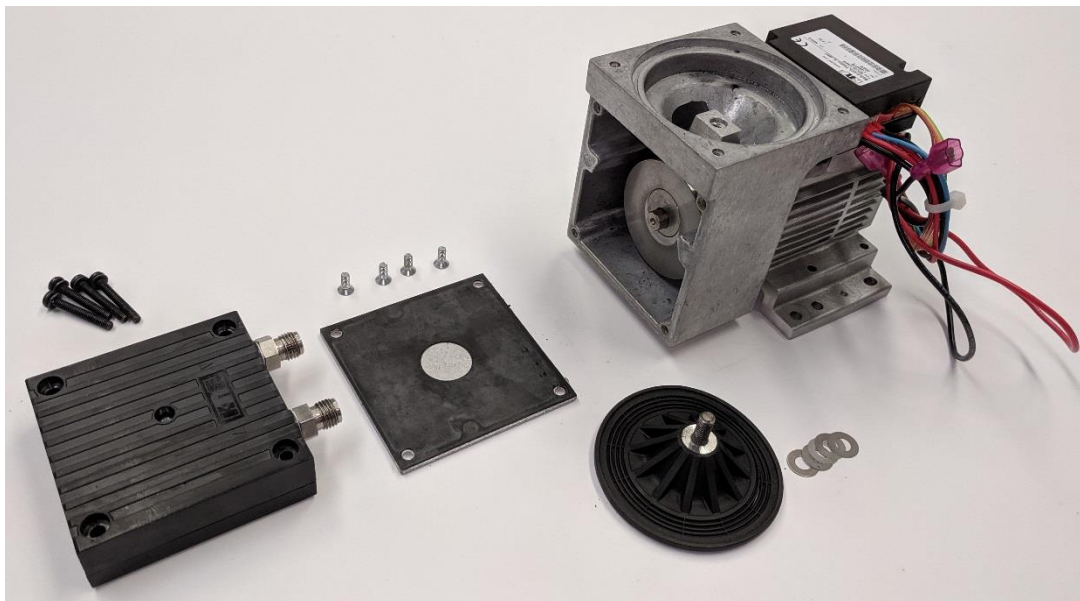

Figure 76: Vacuum Pump with Diaphragm and Spacers Removed
5. Lift and grip the edges on opposite sides of the diaphragm with fingers and turn counter clockwise to unscrew it from the connecting rod. Ensure to remove and retain the diaphragm spacers which will be located on the threaded portion of the diaphragm. See Figure 76.